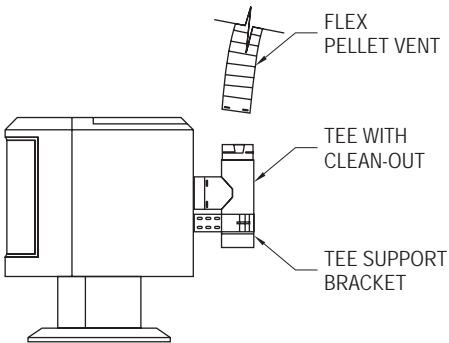

Figure 12
9. If a Tee is necessary to make the connection, as shown in *Figure 12*, the Tee has a removable Clean Out Adapter on its base to enable cleaning. The Tee Support Bracket to hold the Tee to the rear of the appliance is mandatory. If it is desired to mount the Tee Support to the rear of the stove, obtain approval from the manufacturer of the stove before drilling, tapping, or performing any other alterations to the appliance.